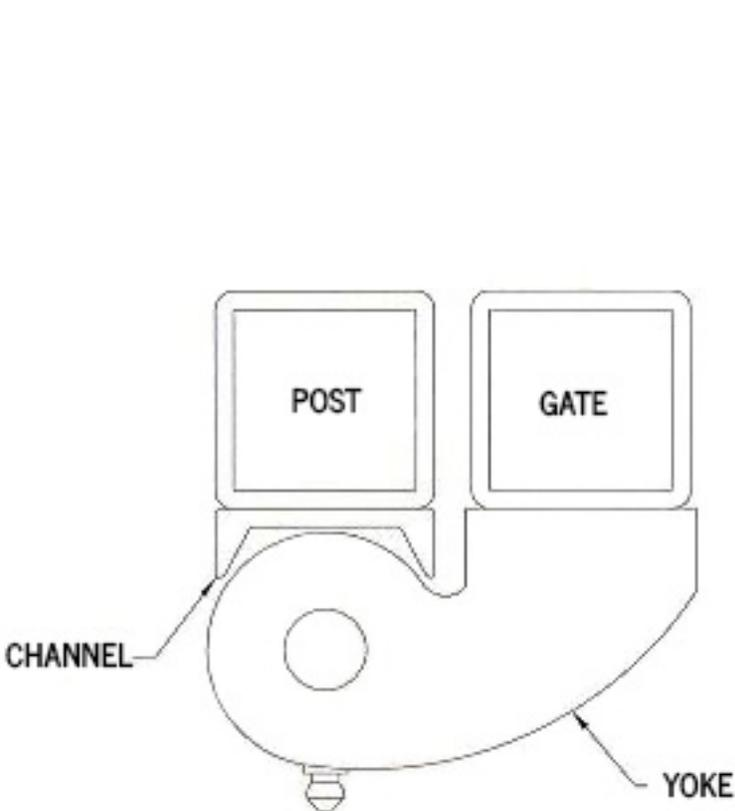

FIG. 1
**Gorilla** gate hinges are to be mounted with the yoke (FIG. 1) welded to the gate and the channel welded to the post. The hinges must be installed with the hinge pins in a straight line. Two hinges per gate leaf are recommended except in cases where the gate exceeds 6' in height or 6' in width or weighs more than 1000 pounds. In such cases additional hinges per leaf may be added at the installer's discretion. Weld only on the vertical portions of the yoke and plate. **DO NOT** weld the top and bottom of the hinges. Bolt on versions of this hinge are available.